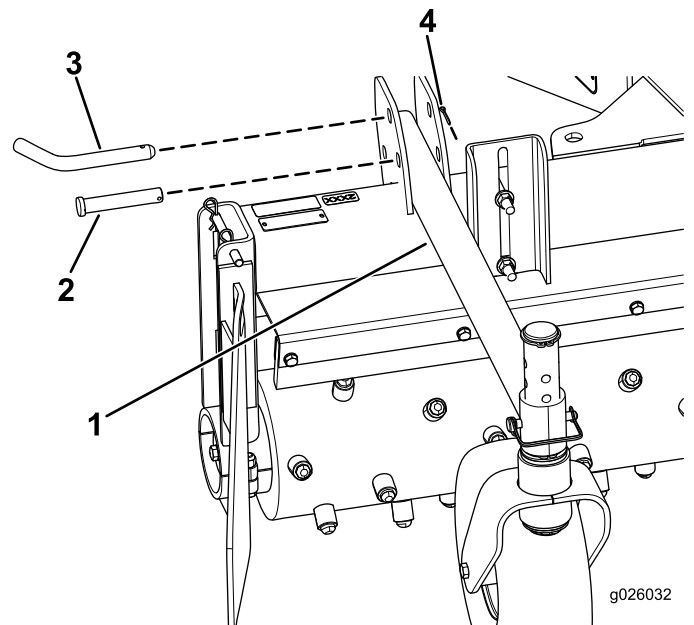

Figure 5
2. Secure the caster arms in place with the hitch pins (5/8 x 3 inches), clevis pins (5/8 x 3.5 inches), and the hairpin cotters (0.094 x 1 inch) as shown in Figure 5.